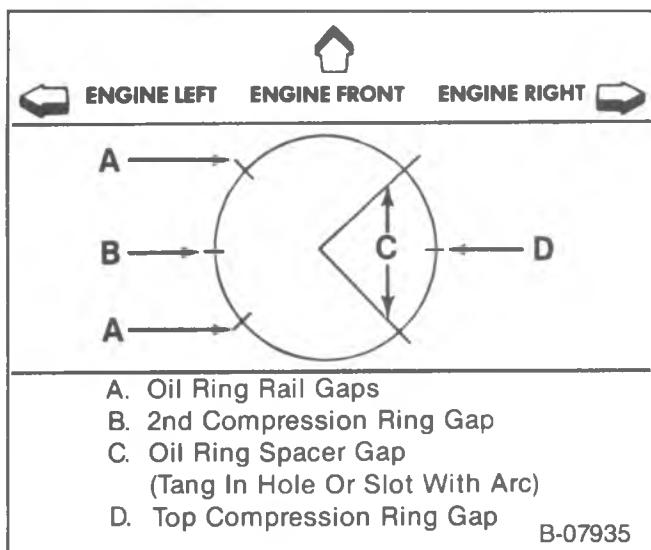

Figure 63—Piston Ring End Gap Location (7.4L Engines)
- Locate the piston ring end gaps as shown in figure 62 (5.0 L and 5.7 L engines) or figure 63 (7.4 L engines).